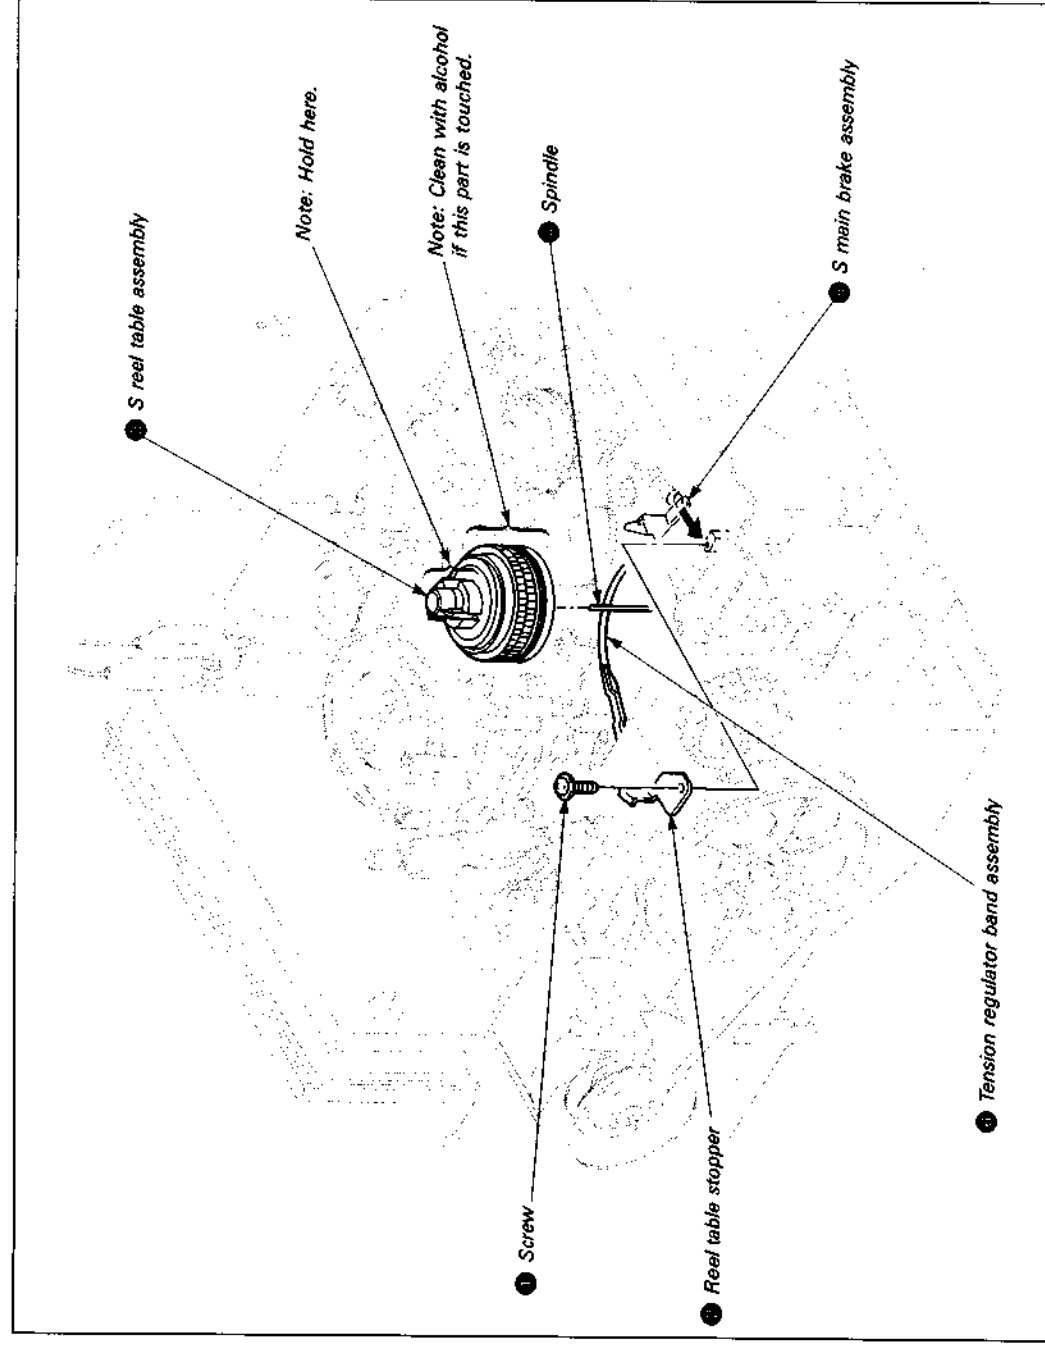

Fig. 7-6.
7-3-1. S Reel Table Assembly (See Fig. 7-6.)
- 1) Remove the S reel table assembly according to item 7-3-1, 1. Removal. (See Fig. 7-6.)
- 3) Mount the S reel table assembly according to 7-3-1, 2. Mounting. (See Fig. 7-6.)